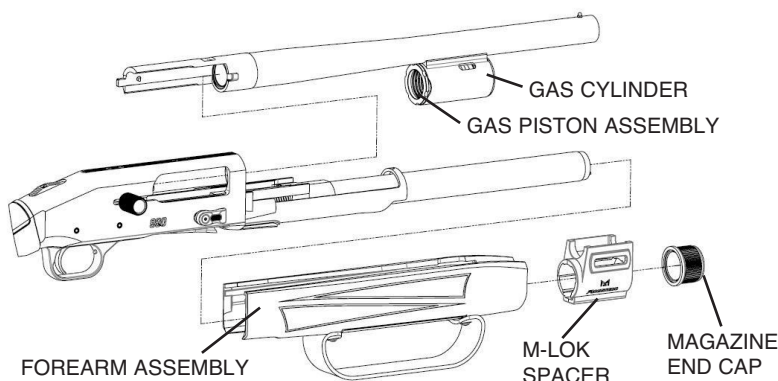

Figure 19
1. Reinsert the gas piston assembly into the gas cylinder portion of the barrel (Figure 19).